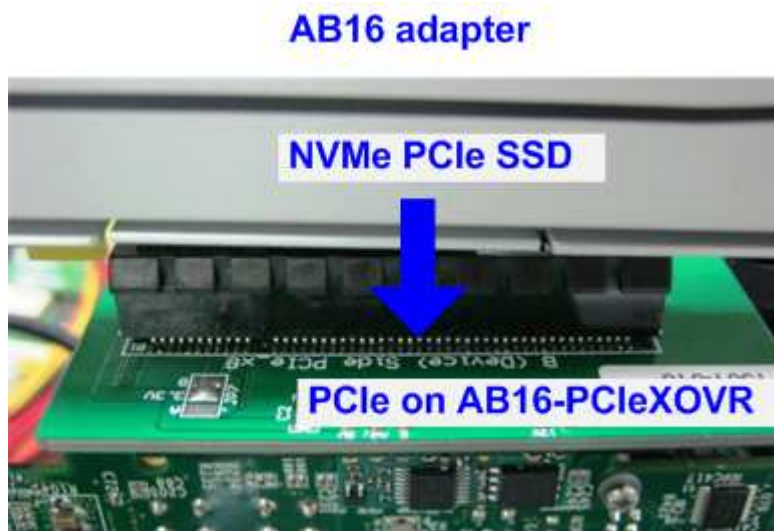

Figure 2-3 Connect NVMe PCIe SSD to AB16-PCIeXOVR board
- 4) Connect NVMe PCIe SSD to B Side of PCIe connector on AB16-PCIeXOVR board, as shown in Figure 2-3.